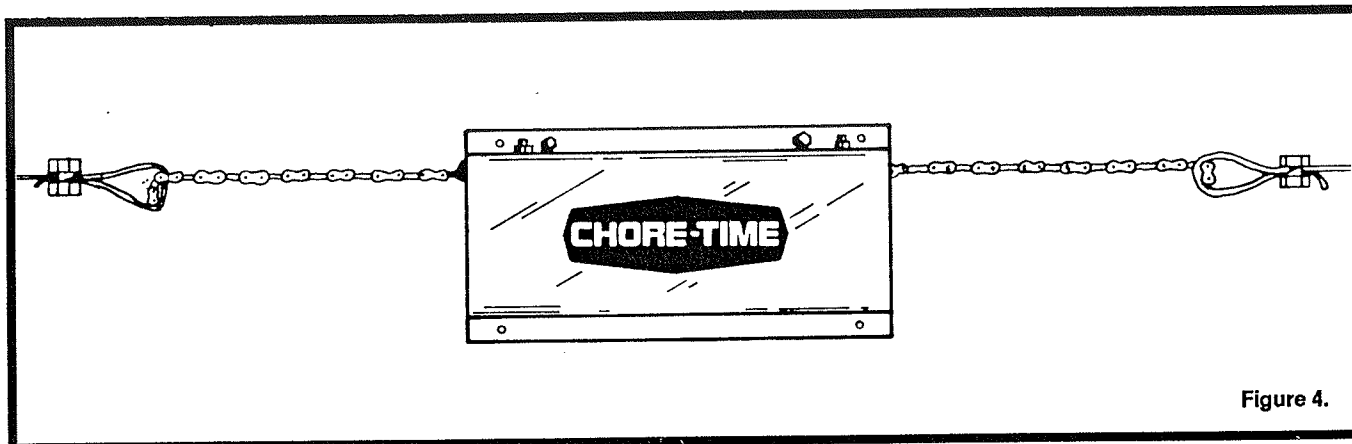

Figure 4.
5. Cut the Return Cable at the Power Pack. Thread the ends of the cable through the second link from each end of the chain, as shown in Figure 4.
6. Form a loop and fasten the cable with a split-bolt type cable clamp. See Figure 4.